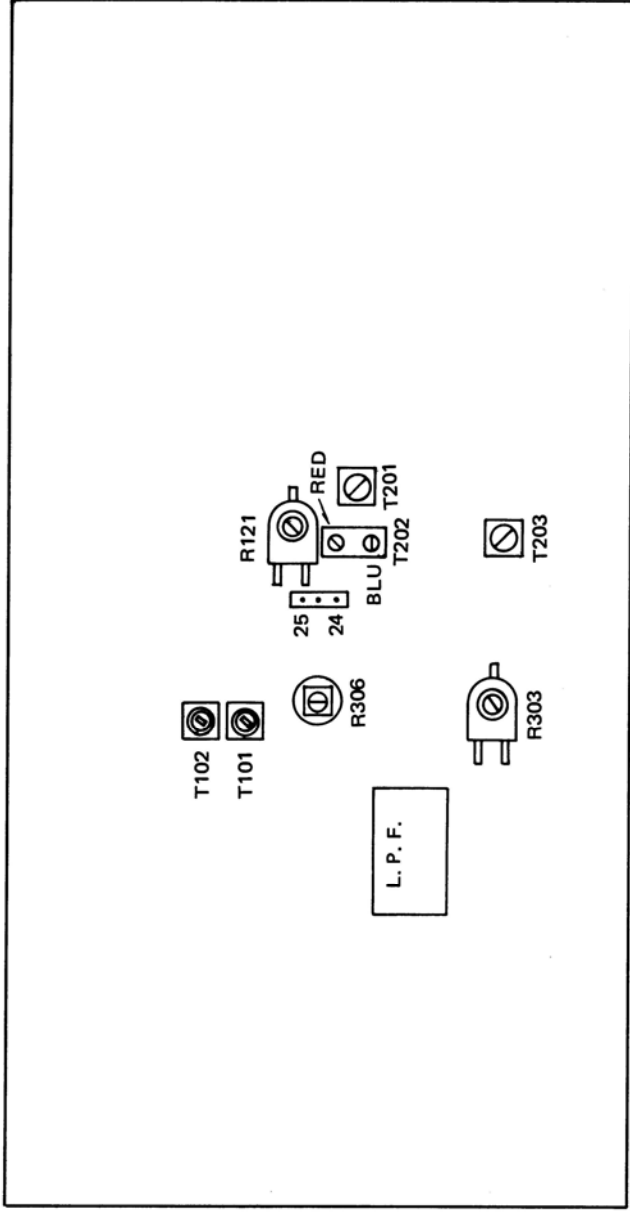

Fig. 3 TUNER/EQUALIZER PCB (TOP VIEW)
2. Set tuning needle so that no signals are received (a hiss is heard in the sound). Adjust T101 (Top Core) so that M1 (center-of-channel meter) indicates the central position and vacuum tube voltmeter indicates maximum deflection. (See Fig. 3).
3. Tune in to catch around 98 MHz signal. Adjust T102 (Top Core) for minimum distortion. (See Fig. 3)
1. Connect frequency counter to test point (24) at TUNER/EQUALIZER PCB. Set R303 fully counterclockwise. (See Fig. 3)
3. Tune in to catch 108 MHz signal. Adjust R319 for 76.2 to 76.5 MHz. (See Fig. 3)
5. Tuner in to catch stereo modulated signal. Adjust R303 for maximum separation. (See Fig. 3)
3. Adjust T202 (RED) for maximum waveform. (See Fig. 3, 6)
4. Adjust T202 (BLU) for maximum waveform. (See Fig. 3, 6)
5. Adjust T203 for maximum waveform. (See Fig. 3, 6)